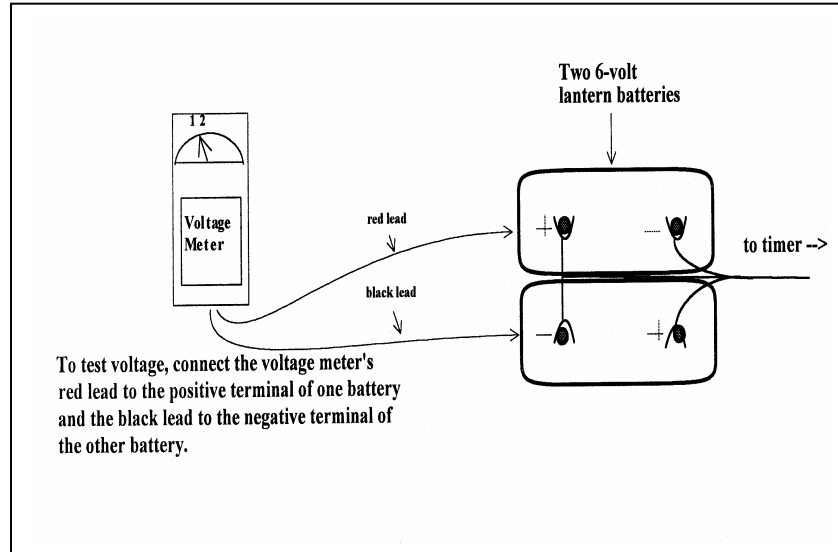

Figure 4-7. Paragon Timer Battery Configuration.
To change the 6 volt batteries (Figure 4-7):
- Measure the voltage of the new batteries as shown in Figure 4-7. The measurement should be approximately 12 volts.